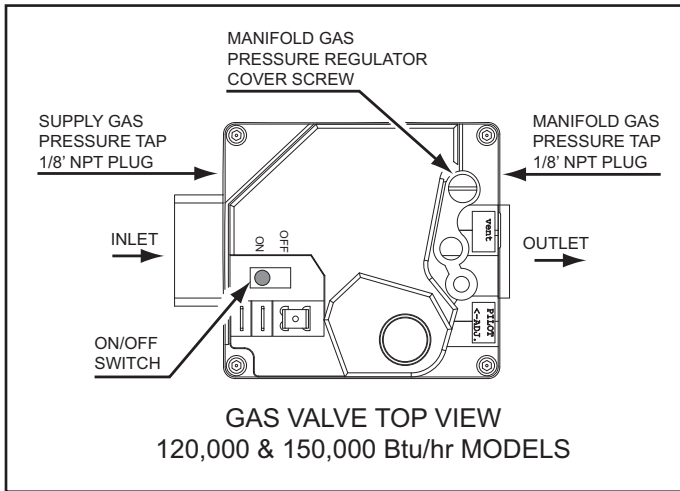
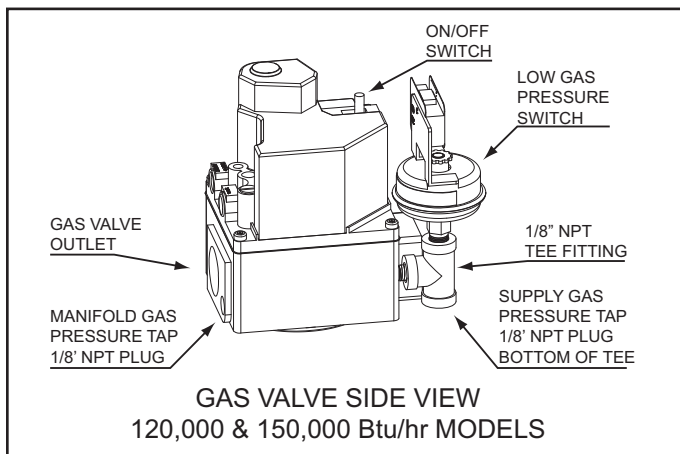

Figure 57
Figure 58
On A/HCG3 120 and 150 models there is a 1/8" NPT Tee fitting and pipe nipple installed for the Low Gas Pressure switch on the inlet side of the 24 Volt Gas Valve with a 1/8" pipe plug for this purpose. Remove the 1/8 inch pipe plug from the bottom of the Tee fitting and install a barb fitting to connect the manometer sensing tube, see Figure 58 on page 53.
A/HCG3 120 & 150 models: remove the 1/8 inch pipe plug from the body of the gas valve on the outlet side and install a barb fitting to connect the manometer sensing tube, see Figure 57 on page 53.
1. A/HCG3 120 & 150 models: turn the on/off switch on the gas valve to the "on" position, see Figure 57 and Figure 58.
2. Remove the manifold gas pressure regulator cover screw, see Figure 57 on page 53.